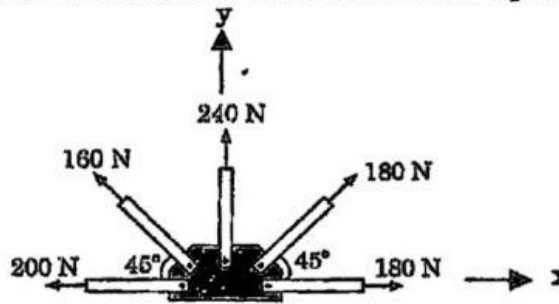

Fig.11 (a)(i)
11. (a) (i) A gusset plate of roof truss is subjected to forces as shown in Fig.11(a)(i). Determine the magnitude of the resultant force and its orientation measured counter clockwise from the positive x-axis. (7)